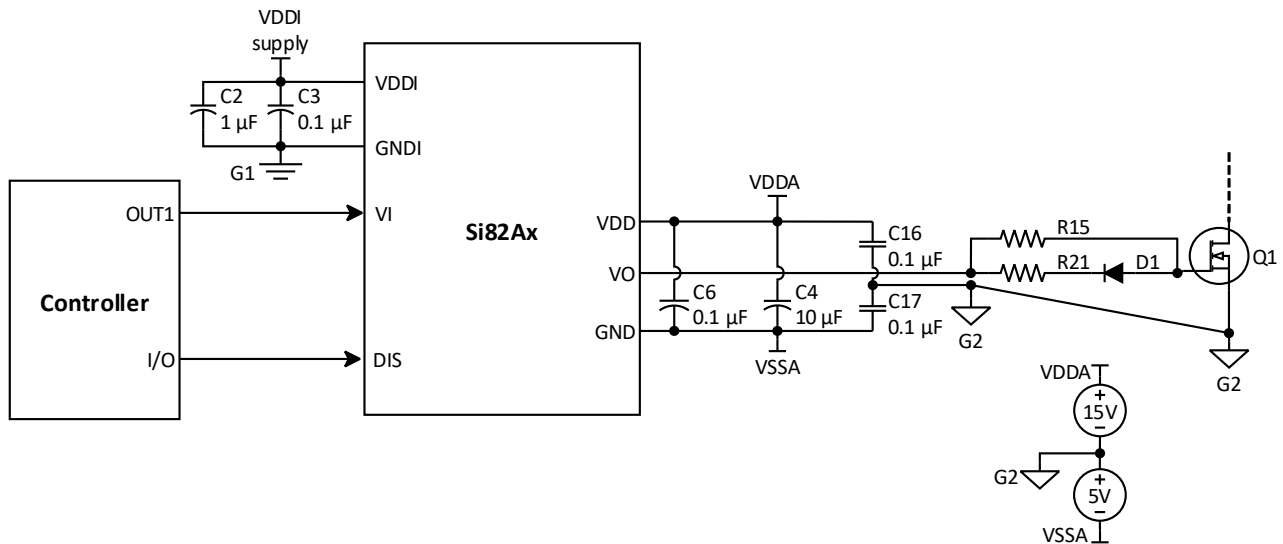

Figure 15. Bipolar Output Connection
The diagram shown in Figure 15 below is similar to the above circuits except that the drivers produce the bipolar V_{GS} output voltage. The bipolar V_{GS} output requires the system to provide positive and negative voltage sources. Note that the bootstrap circuit cannot be used to share the low-side voltage sources with the high-side gate driver for a bipolar V_{GS} output application. In this example, +15 V and -5 V sources are used. The voltage sources' reference, G2, is electrically connected to FET Q1's source.
- If the application requires extremely high common-mode transient immunity (CMTI) performance, it is recommended to add a 10 nF capacitor between each of the logic input pins and the logic input ground (GNDI), including the no connect (NC) pins. This will help improve the CMTI performance.
- If the system is designed to provide a bipolar V_{GS} output, additional bypass capacitors (C16 and C17 in Figure 15, “Bipolar Output Connection,” on page 15) are required to minimize the return path length of the gate drive signals.